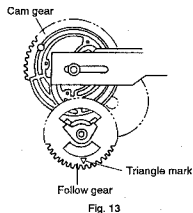

Fig. 13
- ② Install the follow gear where the portion of chipped tooth of the follow gear come to the position as shown in Fig. 13.